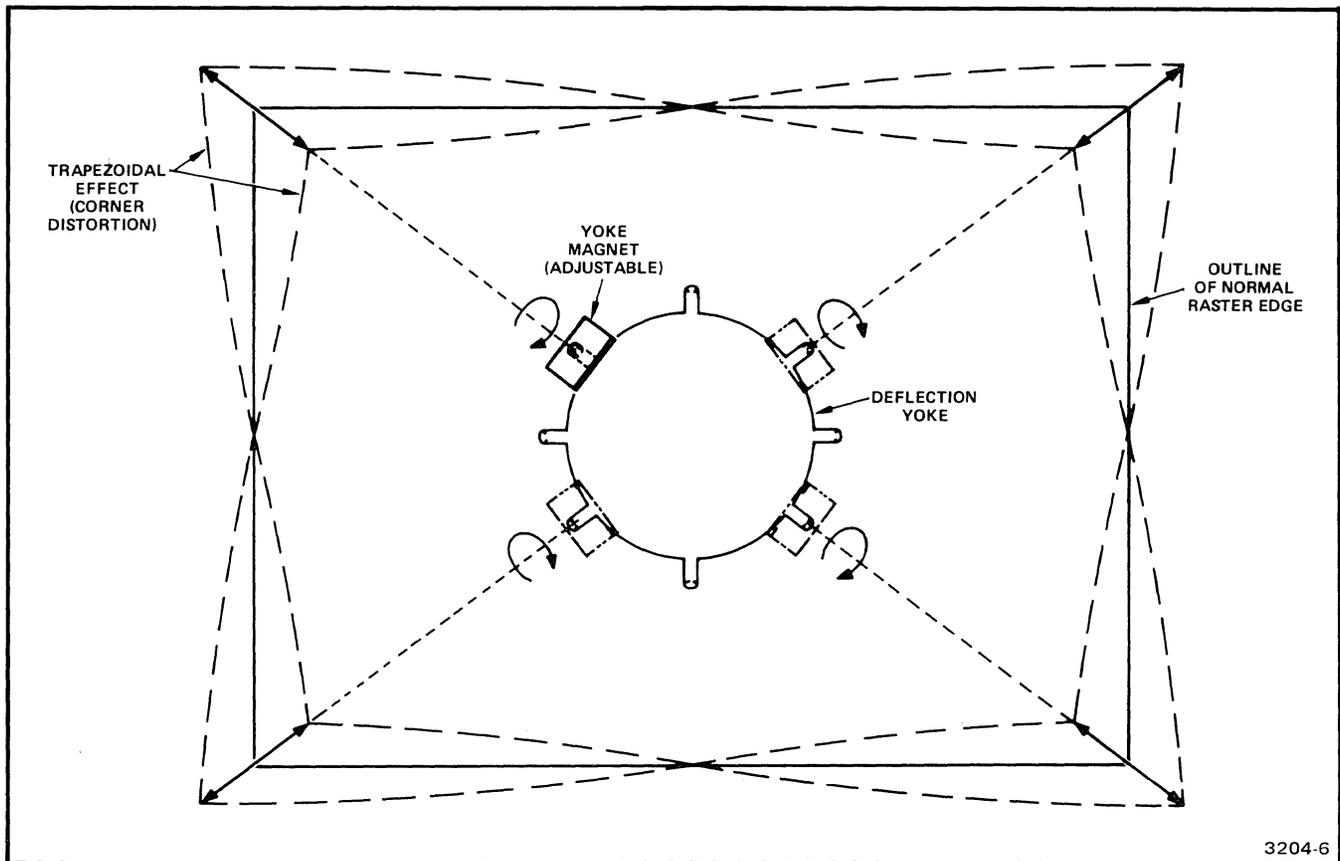

Figure 5-6. Trapezoidal Effect and Adjustment.
Perform this adjustment if the raster exhibits the abnormal effects shown in Figure 5-6.
1. Push a magnet onto the yoke mounting pin as shown in Figure 5-6. The magnet should be placed only on the pin that corresponds to the affected area.
2. Rotate the magnet to obtain the desired raster, labeled 'NORMAL' in Figure 5-6.